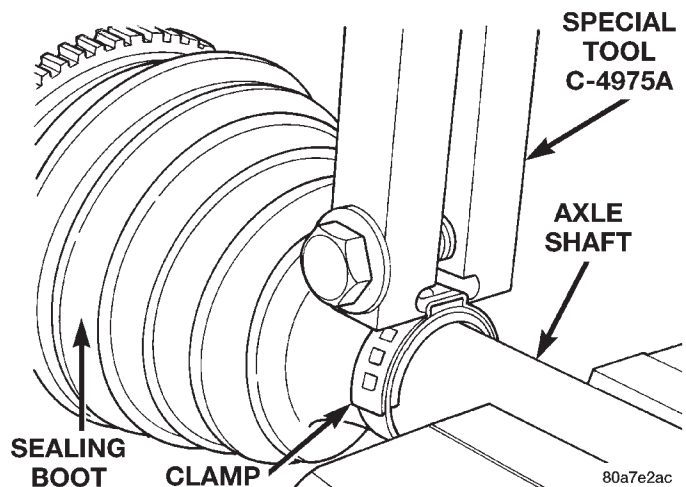

Fig. 7 Crimping Tool Installed On Boot Clamp
- (1) Slide new sealing boot large clamp over axle shaft and onto C/V joint.
- (2) Slide the axle C/V joint sealing boot onto the axle shaft.
- (3) Distribute 1/2 the amount of grease provided in seal boot service package (DO NOT USE ANY OTHER TYPE OF GREASE) into axle C/V joint assembly housing. Put the remaining amount into the sealing boot.
- (4) Install axle C/V joint boot small clamp evenly on sealing boot.
- (5) Position axle C/V joint boot into retaining groove in axle C/V joint housing. Then, install large retaining clamp evenly on sealing boot.
- (6) Clamp small sealing boot clamp onto axle shaft using Crimper C-4975-A. Place crimping tool C-4975-A over bridge of clamp (Fig. 7).